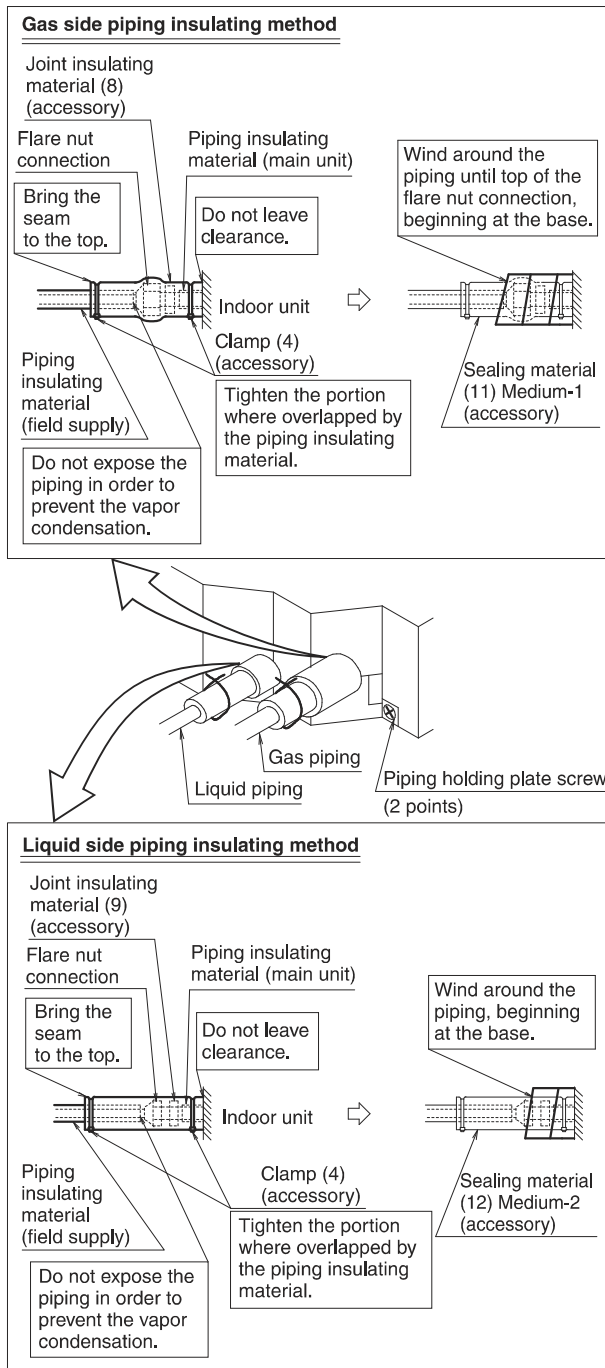
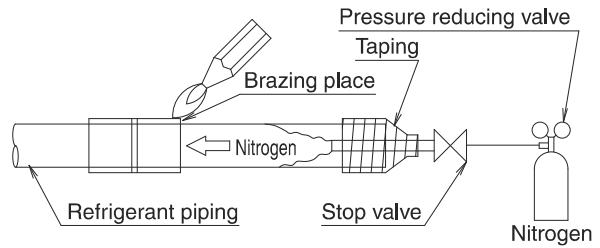

Fig. 12
Fig. 13
- After leak test, referring to Fig. 12, insulate both the gas and liquid piping connection with the attached joint insulating material (8) and (9) to prevent the pipings from getting exposed. Then, tighten the both ends of insulating material with the clamp (4).
- Wrap the sealing material (Medium-1, 2) (11) (12) around the joint insulating material (8) and (9) (flare nut section), both the gas and liquid piping.
- Make sure to bring the seam of joint insulating material (8) and (9) to the top.
- Before brazing refrigerant piping, have nitrogen flow through the refrigerant piping and substitute air with nitrogen (NOTE 2) (Refer to Fig. 13). Then, carry out brazing (NOTE 3). After all the brazing works are finished, carry out flare connection with the indoor unit. (Refer to Fig. 12)